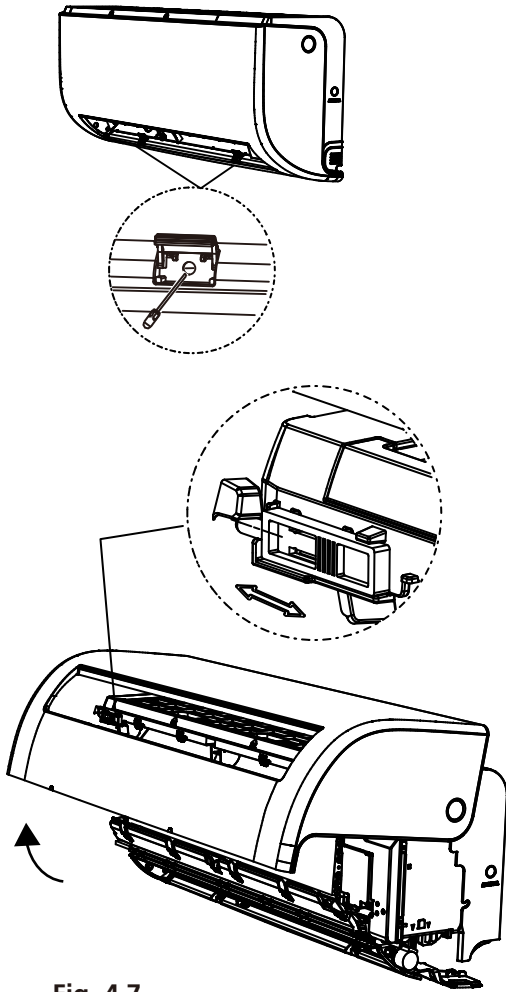

Fig. 4.7
Firstly, unscrew the two screws showed in the picture below, then open the panel, and fix the position of the panel by the latch(see Fig.4.7).
2. Open front panel of the indoor unit by loosening the screws according to picture Fig.4.7, which provide big space for wiring connection.